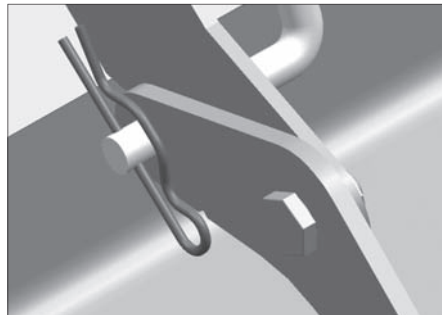
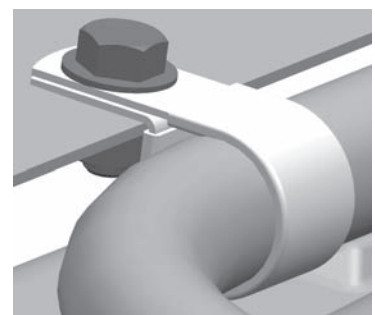

Figure 3
Figure 4
5. Install deflector support bands on hopper support tube as shown in Figure 3. Continue by installing deflector to support band on right side as shown in Figure 4.